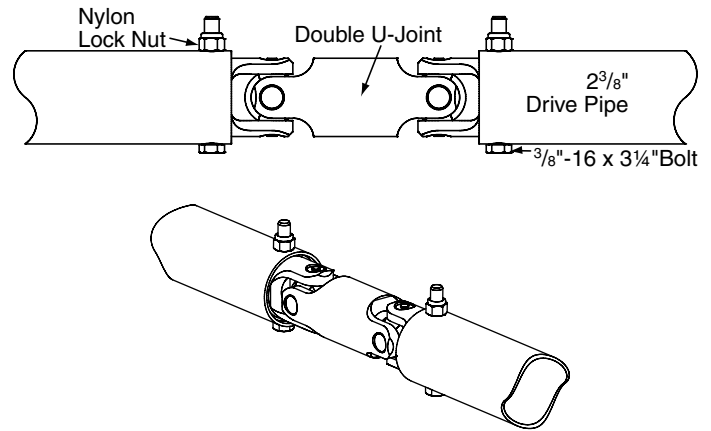

Figure 2
- ⑦ As necessary, connect drive tubes using drive pipe splices making sure to tighten set screws to expand inside of drive tubes.
- ⑧ Slide the proper number of cable guide sleeves onto drive tube
- ⑨ At corners, connect drive tube sections using universal joint assemblies (see Fig. 2)